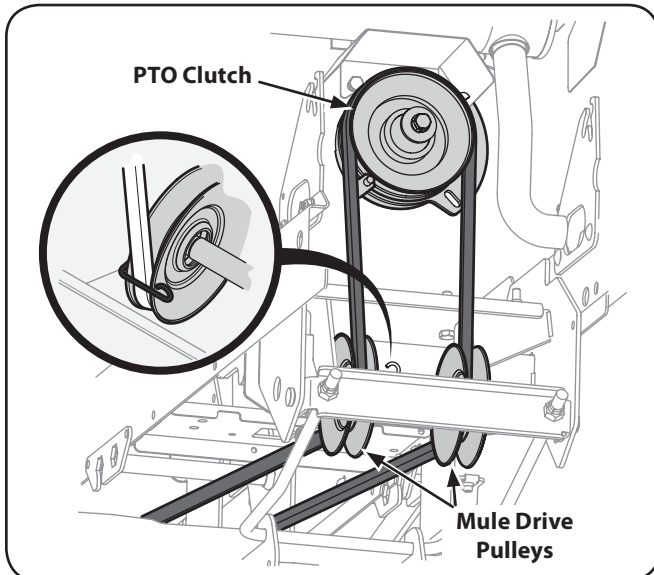

Figure 7-8
6. Feed the belt forward and remove from around the mule drive pulleys (See Fig. 7-8 on page 29) and the tractor's PTO clutch pulley.
- Working from the front of the tractor, route the belt around the PTO clutch pulley, with the 'V' side of the belt seated in the pulley. Carefully feed the belt downward and route it in the two mule drive pulleys. See Fig. 7-8.